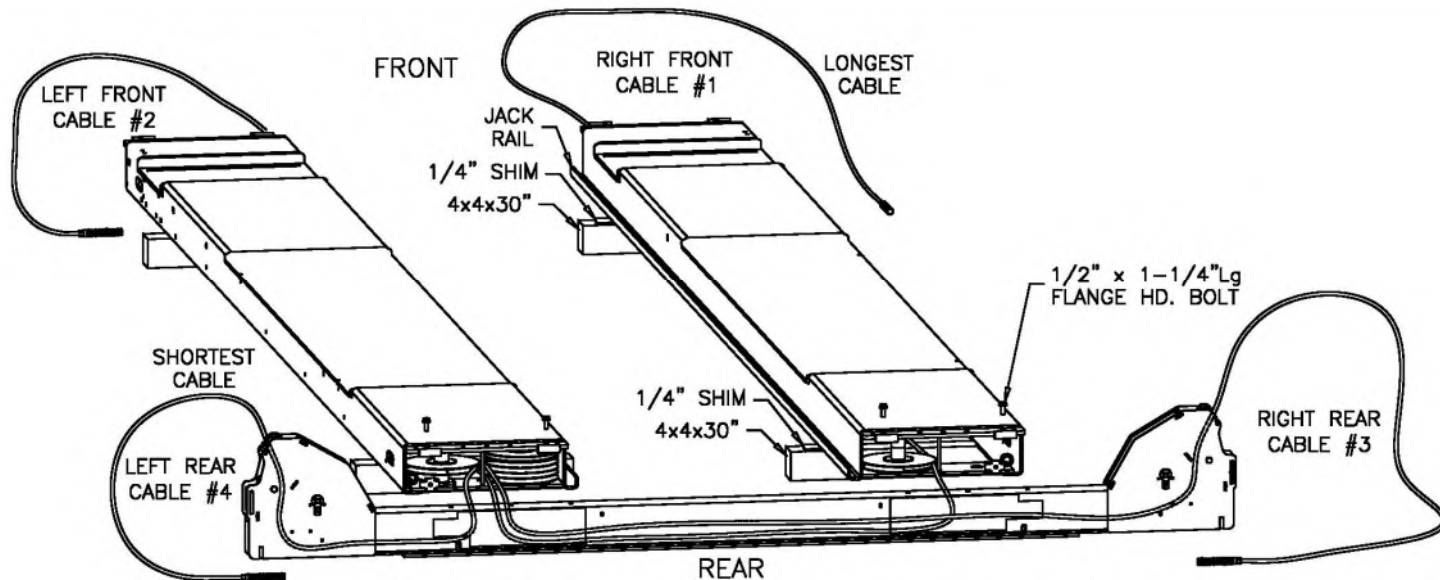
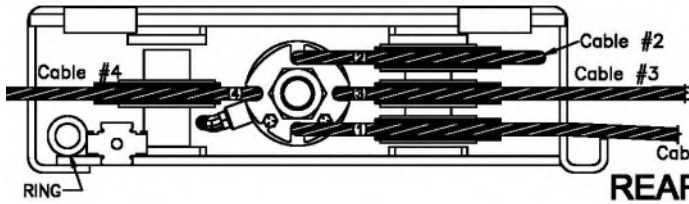
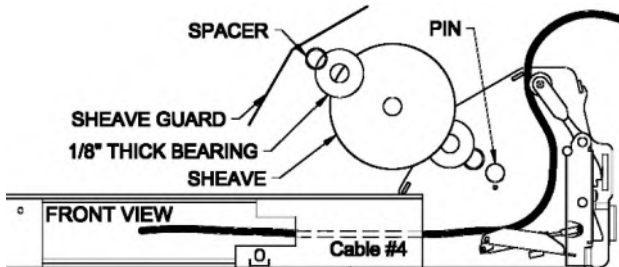
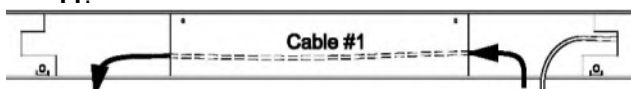

Fig 5 – Runway Layout
Fig 6 – Power Runway 3-Stack & Single Stack
Fig 10 – Cable #4 Routing
Fig 11 – Cable #1 Routing
- 2) Unpack lift. Remove all packaging from Power Runway (power runway has four cable sheaves at rear of the deck). Cut the white cable ties, but leave the black cable ties. Pull the three threaded cable ends out the rear and one threaded cable out the front. **See Fig 5**.
- 3) Position runways on blocking (*see Fig 5*) per layout lines established in step 1. Use four 30" long 4x4's spanning the width of the runway to shim up the runway. **Cable #1, #3, & #4** should be extending out from the rear of the power runway and **Cable #2** from the front of the power runway, **Fig 5. Check Cables to make sure each is being retained/routed as shown in Fig 6.**
- 4) Position the rear crossbeam near the end of the runways as in **Fig 5**. Reach in through both of the access holes in the Rear Crossbeam and pull out the roll of 4mm dia. plastic air line. Each air line has already been ran through the chase tube and connected to an air cylinder. Insert the air line into the first Ring of each runway end. See **Fig 6 and 7.**
(1/4" OD x 20 ft. long) from the Accessory Box. Mark the Electrical cable 15" from the tip of one of the connectors and mark the red air line 76" from one end. Tape the cable and air line together at the marks and route them thru the power runway opening of the rear crossbeam and back out the idler runway opening. At the idler opening, lift the electrical cable and air line up behind the Cable Tie-Off Bracket (Dog bone), **Fig 5**. Align the taped marks with the leading edge of the dog bone and secure both the cable and the air line to the dog bone with a cable tie, **Fig 5**. Install a second cable tie on the other side of the dog bone. From the Power Side access hole, place the cable and air line behind the Driver side dog bone, pull the slack and secure with two cable ties like the idler side. Cable tie the electrical cable to the red air line about 3" back from the connector and route the remainder of red air line through the first ring of each runway.
- 8) Starting from the rear of the lift. Identify **Cable #4** using Fig 6. Route **Cable #4** from the left single stack through the access hole and up out the end of the crossbeam as shown in Fig 10.
- 9) Starting from the rear of the lift. Identify **Cable #1** using Fig 6. Route **Cable #1** through the access hole of the rear crossbeam, and back out the idler side access hole as shown in Fig 11.
- 13) Double check to make sure **Cable #3** is above **Cable #1** and not crossed. See **Fig 6 and 7**.
- 14) Reinstall the crossbeam sheave for **Cable #3 and Cable #4**. Slide the sheave pin through the hole, slide one sheave spacer onto the pin followed by one 1/8" plastic bearing washer, and the sheave. Set the cable into the Sheave channel and proceed to adding a 1/8" plastic washer and sheave spacer to the pin. Install the 5/16 x 3/4 bolt to retain the sheave. Reinstall the sheave guards. See **Fig 10 & 15**.
- 15) Remove slack and route each 4mm air line through the first ring in the runway for both sides, see **Fig 6 and 7**. Bring the crossbeam up to the runways being careful to not pinch the air line, cables, and sheaves.
- 17) Attach the rear crossbeam to the runways (**Fig. 5**) with 1/2 x 1-1/4" lg. flange head bolts. (Leave the air lines hanging out the bottom of the runway at this time. They will be fed in through the runway after the lift is raised.) **The outermost runway holes should be in line with the outermost holes in the top of the crossbeam, see Fig. 5.** Do not torque bolts yet.